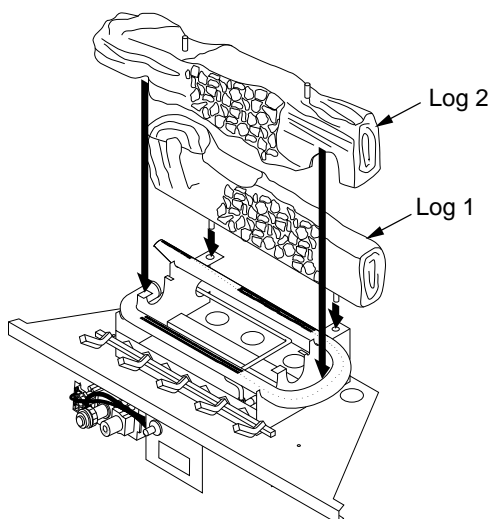

Figure 28 - Installing Logs 1 and 2
1. Place pins in rear log (log 1) into holes on rear of base grate as shown in Figure 28.
2. Place middle log (log 2) between front and rear of burner. The left side will rest on the left tab and the right will straddle the burner as shown in Figure 28.